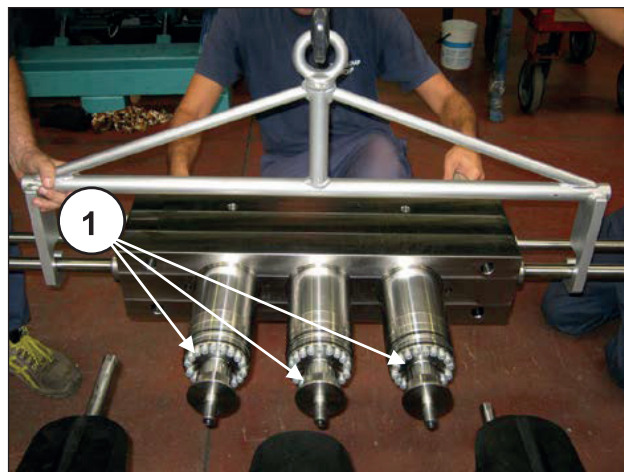
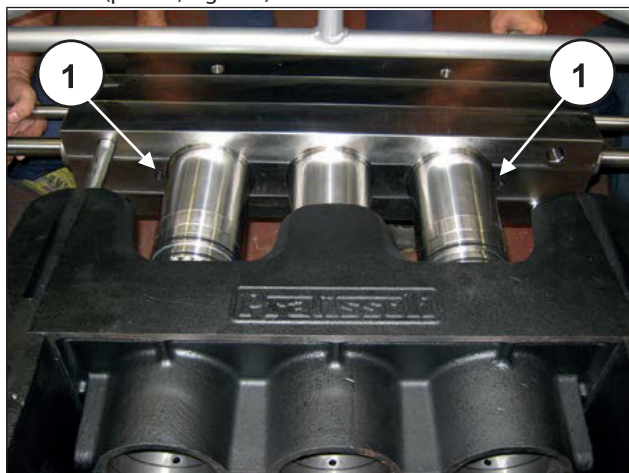

Fig. 185
Fig. 184
To reassemble the various components, invert operations paying special attention in inserting the head on the head spacer secured to the casing, taking care not to drop the O-rings mounted on the head support plane (pos. ①, Fig. 184). The head must be reassembled with the pistons inserted in the liners (pos. ①, Fig. 185).